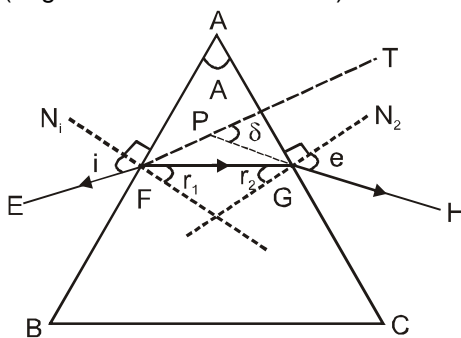

Figure 1 Refraction of light through a prism
**Minimum Deviation** - In (Fig 1), ABC represents the principal section of a glass prism. Let EF be a ray of light that is incident on the refracting face AB of the prism. The straight path FG represents the refracted ray through the prism and GH represents the emergent ray.  $FN_1$  and  $GN_2$  are drawn normal to the refracting faces AB and AC at points F and G respectively. Incident ray EF Produced to PT, as result of refraction through the prism ABC emerges along GH. The incident ray shown as EF (extruded as dotted line FPT) deviates and follows the path PGH. The angle  $\delta$  is the angle between the incident ray EFPT (produced) shown dotted and the emergent ray GH (produced backwards) to meet EFT at the point P. This angle  $\delta$  is known as the angle of deviation. the angle BAC of the prism (i.e., the angle between its two refracting faces) is called the angle of the prism and it is denoted by the letter 'A' It can be proved from simple geometrical considerations that